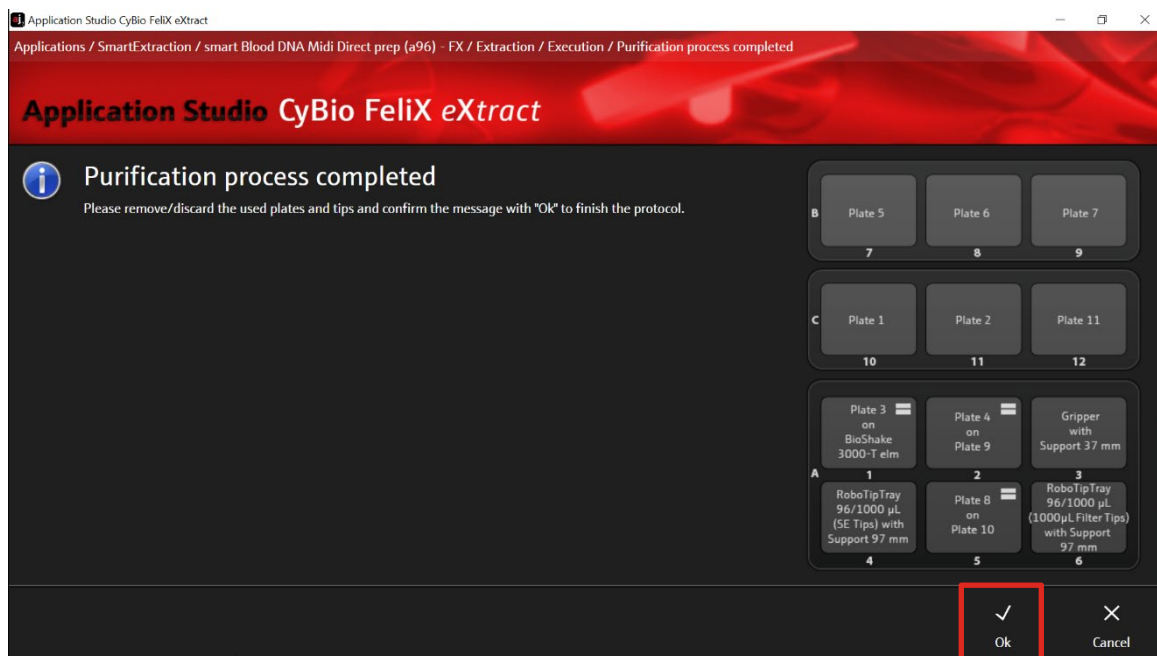

Figure 37: Purification process completed.
10. The chosen extraction protocol is performed by the device. After the protocol is finished, the message "Purification process completed" is displayed. Confirm the message with "Ok" (→ see Figure 37).